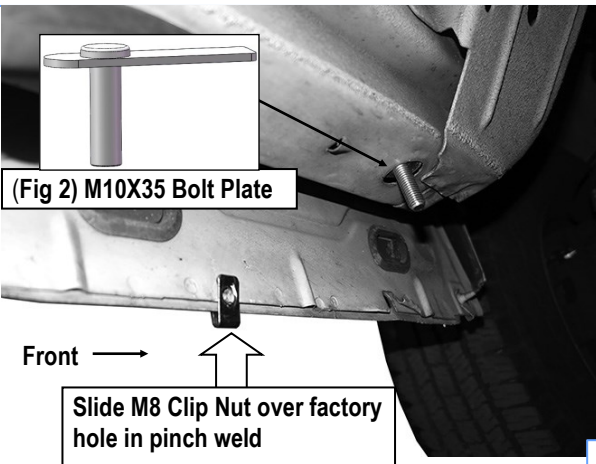

Fig 3
Starting installation from the driver side front of the vehicle. Locate and remove the rubber plug near the front tire opening, (Fig 1). Select (1) M10X35 Bolt Plate, (Fig 2). Insert the Bolt Plate into and across the opening, (Fig 3).
Line up the mounting tab on the Bracket with the factory hole in the pinch weld. Slide (1) M8 Clip Nut over the hole in the pinch weld with the nut toward the outside of the vehicle, (Fig 3).
- Slide (1) M8 Clip Nut over the drilled hole in the pinch weld with the nut toward the outside.